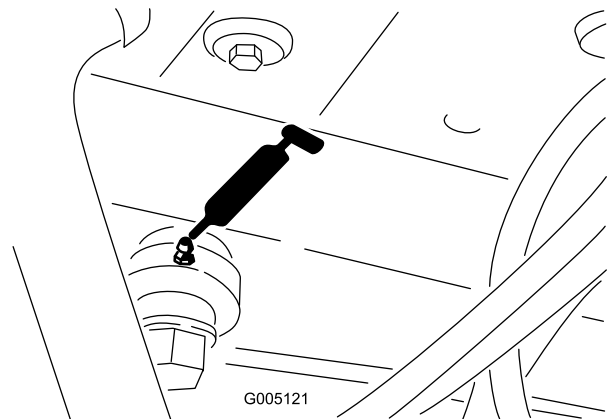

Figure 42
- Power steering cylinder (Figure 42)